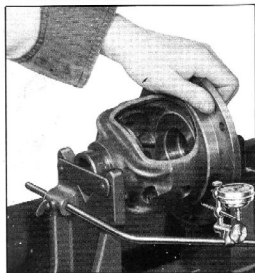

Fig. 9—Checking Run-Out of Differential Case
2. Place the differential case in the "V" blocks of the checking fixture U-4 and indicate the run-out of both the ring gear pilot and the case flange, Fig. 9. Neither of these run-outs should exceed .001".